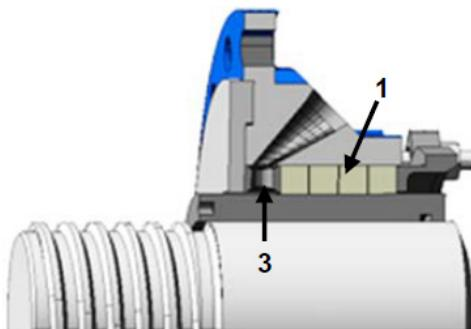

Figure 9-4: Forward Flush Design
- **Forward Flush:** (Figure 9-4; 1 is the packing and 3 is the lantern ring.) This design has historically been used where gland water supply is plentiful and the addition of water to the process flow is not problematic; however, note that GIW/KSB is phasing out this design due to global water conservation initiatives. This stuffing box is no longer available on GIW/KSB's standard pumps.